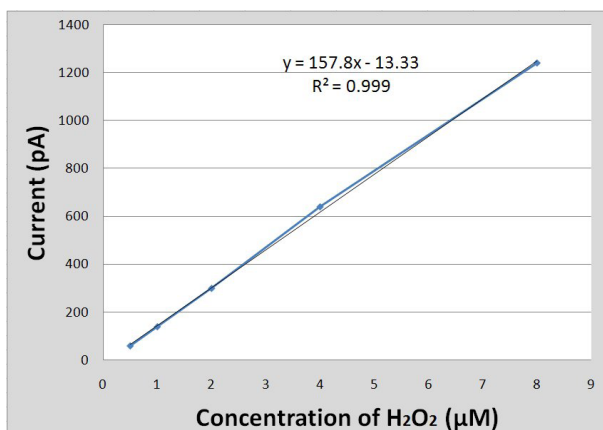

Fig. 11—(Right) Calibration Curve
2. Consecutively add known volumes of the H₂O₂ standard solution to the PBS buffer solution. For example, add 0, 5, 10, 20, 40, 80 μL H₂O₂ standard solution (1.0mM) into the 10mL PBS buffer solution. The additions can be added once every 20-30 seconds. The resulting output should look similar to the example in **Fig 11**.